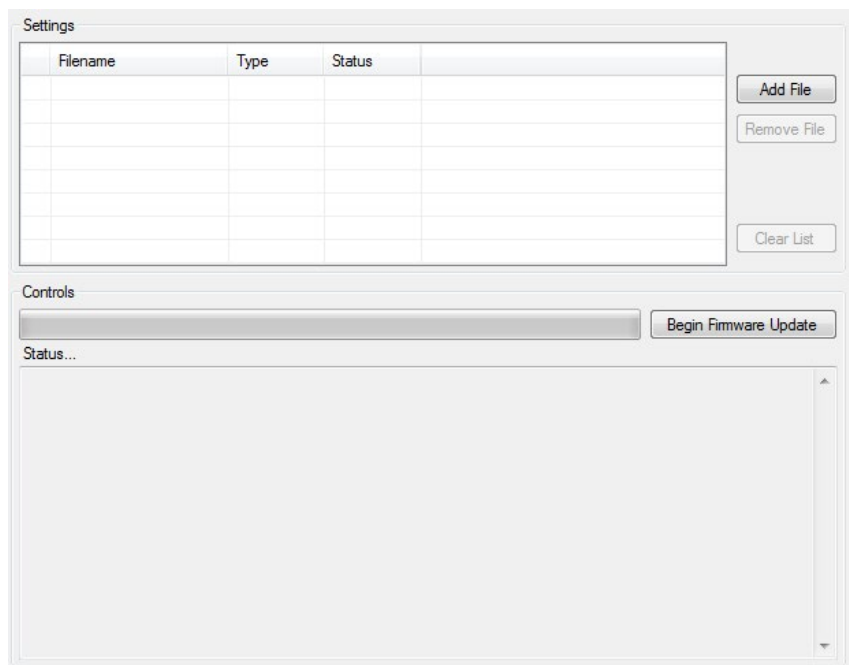

Figure 19: Firmware Update Window
1. Click *Firmware Update* on the menu to open the *Receiver Options* tab (see Figure 19).